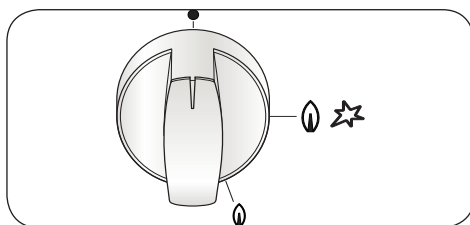

fig.3
- If the appliance is fitted with a glass lid, this can shatter when heated. Turn off all the burners or disconnect all the plates, and allow them to cool before closing the lid (fig.3)
Gas burner knob (fig.3)